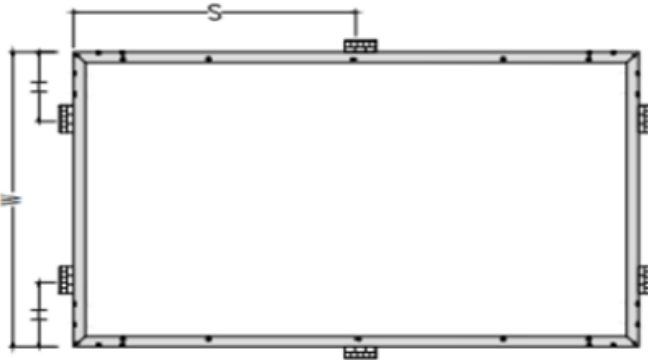

Figure 13: Short side clamping range of modules SPVxxx-R60DWMG / SPVxxx-R60DBMG
- For mounting the module on the short side of the supporting of the frame, slide bolts through the rail grooves next to the 8 clamp locations. The module may be clamped only in the permitted clamping range. For the exact locations refer to area H in *Figure 13* and *Table 3*.